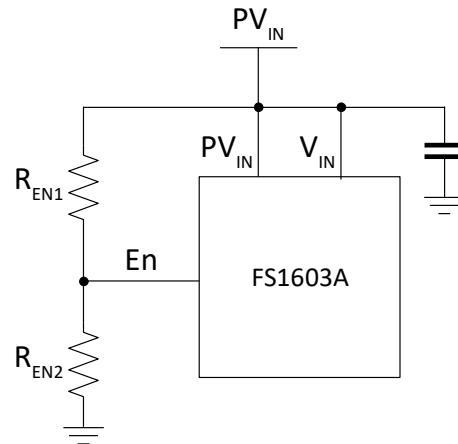
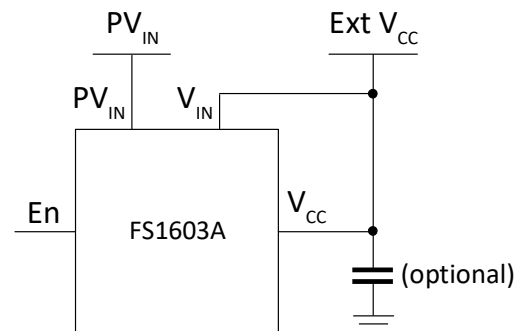

Figure 6 Single supply configuration: internal LDO regulator, adjustable PV_{IN_UVLO}
Figure 7 Using an external bias voltage
The FS1603A has an integrated Low Drop-Out (LDO) regulator, providing the DC bias voltage for the internal circuitry. The typical LDO regulator output voltage is 5.2V. For internally biased single-rail operation, the V_{IN} pin should be connected to the PV_{IN} pin (Figure 6). If an external bias voltage is used, the V_{IN} pin should be connected to the V_{CC} pin to bypass the internal LDO regulator (Figure 7).
- It can be used to implement a precise input voltage UVLO. The input of the En pin is derived from the PV_{IN} voltage by a set of resistive dividers, R_{EN1} and R_{EN2} (Figure 6). Users can program the UVLO threshold voltage by selecting different ratios. This is a useful feature that stops the FS1603A regulating when PV_{IN} is lower than the desired voltage.